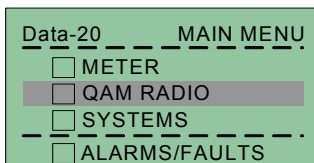

Figure 6: QAM Radio Selection
5. The main menu appears on system power-up. Scroll to **QAM Radio** using the Up  and Down  arrow keys, and then press **ENTER** (see Figure 6).